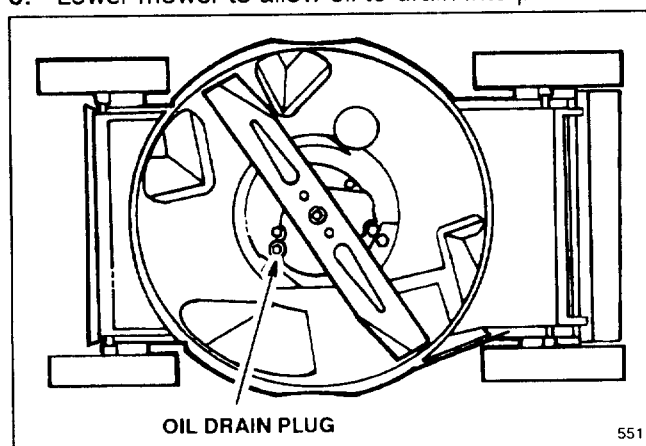

Figure 14
3. Tip mower on its right side (Fig. 14). Place a drain pan under mower.
4. Remove drain plug (Fig. 14) from underside of mower using a  $\frac{3}{8}$ " female square drive.